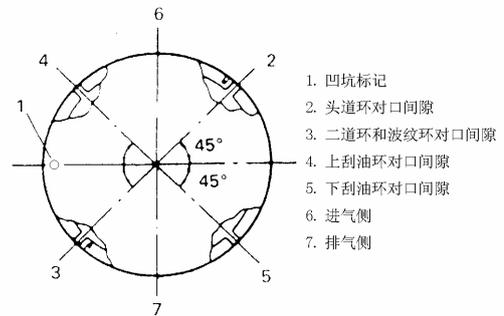

Fig. 4-134
• After installing 3 rings(the first ring 、 the second ring and the oil ring),adjust their gap' position as Fig. 4-134 shown.